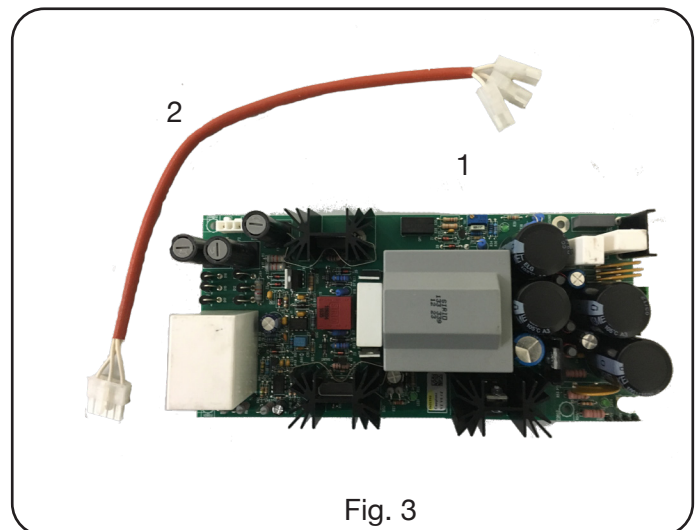

Fig. 3
The Robot Power Supply Kit, art. 435.00 is made up of the elements visible in fig. 3.
- Place the board **1** (Fig. 3) into the Power Source appropriate slot next to the measuring circuit pos.4 / pre-charge circuit pos. 87 (381.80).
- Connect one end of the wiring **2** (Fig. 3) to the J1 connector on the board 1 (Fig. 3).
- Connect the other end of the wiring **2** (Fig. 3) to the points indicated by the electric diagram corresponding the Power Source in use (par. 8).